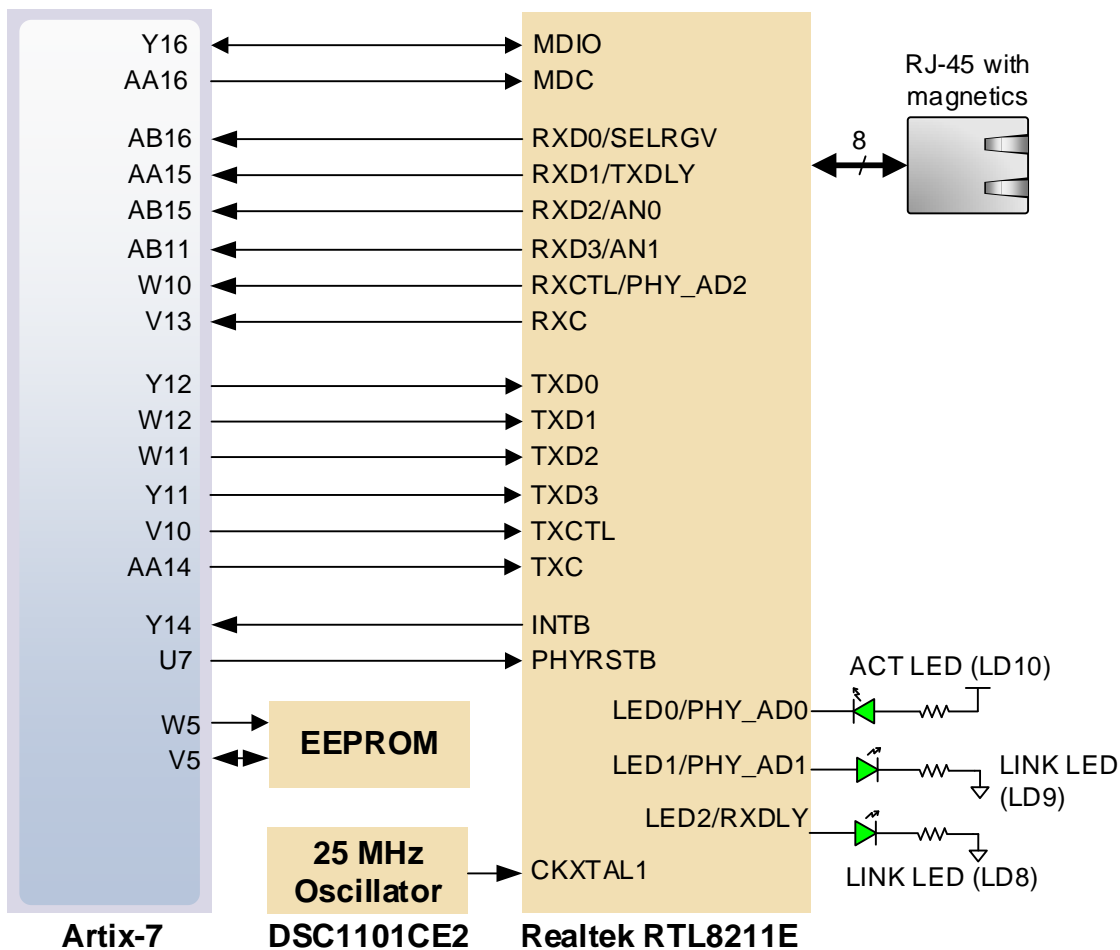

Figure 4. Pin connections between the Artix-7 and the Ethernet PHY.
The Nexys Video board includes a Realtek RTL8211E-VL PHY paired with an RJ-45 Ethernet jack with integrated magnetics to implement a 10/100/1000 Ethernet port for network connection. The PHY interfaces with the FPGA via RGMII for data and MDIO for management. Bank 13 powered at 2.5V is populated with these signals. The auxiliary interrupt (INT\_B) and power management (PME\_B) signals are also wired to bank 13. The reset signal (RST\_B) is the only one wired to a different bank (34), powered at 3.3V. The connection diagram can be seen in Fig. 4.